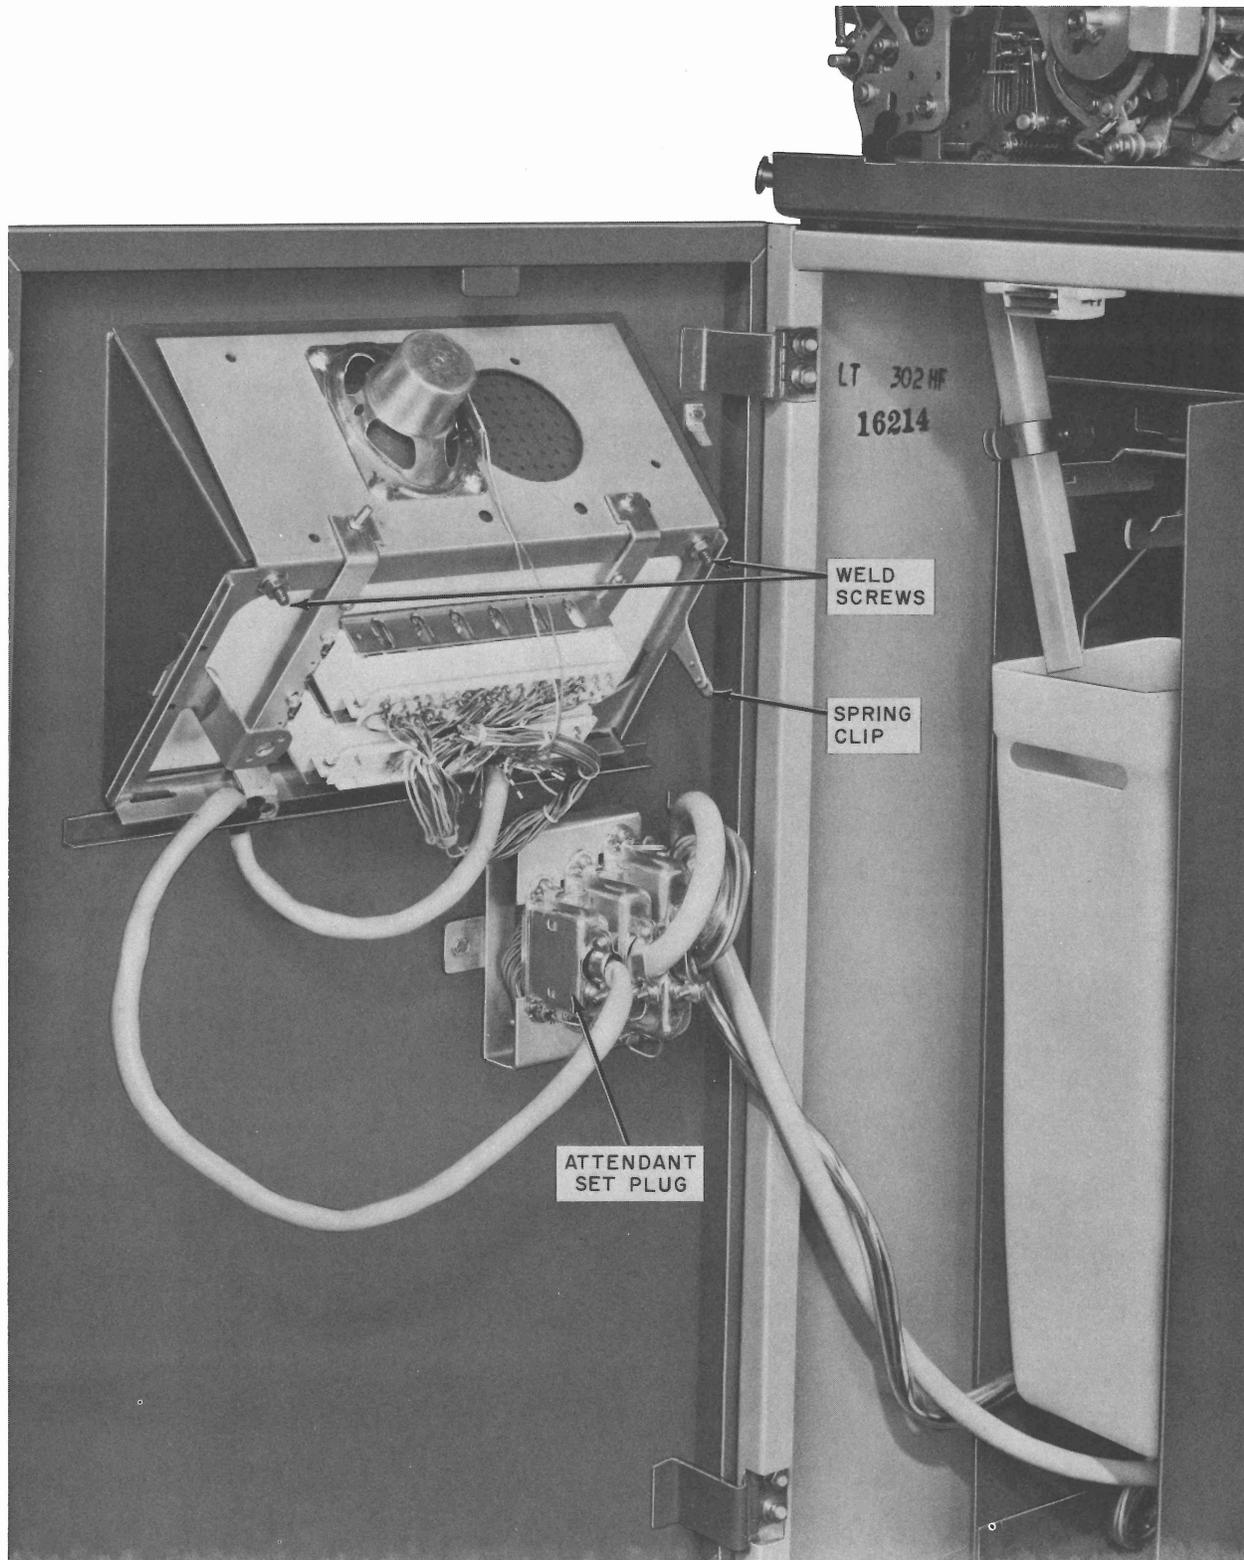

Fig. 19—35 ROTR TTY Data Station—Attendant Set Removal
- (2) Disconnect the attendant set plug from the connector assemblies (Fig. 19).
- (3) Remove two hex nuts and lockwashers from the weld screws on the angle bracket mounting assembly.
- (4) Lower the rear of the attendant set to disengage the locking tabs.
- (5) Remove the attendant set by sliding it to the rear.